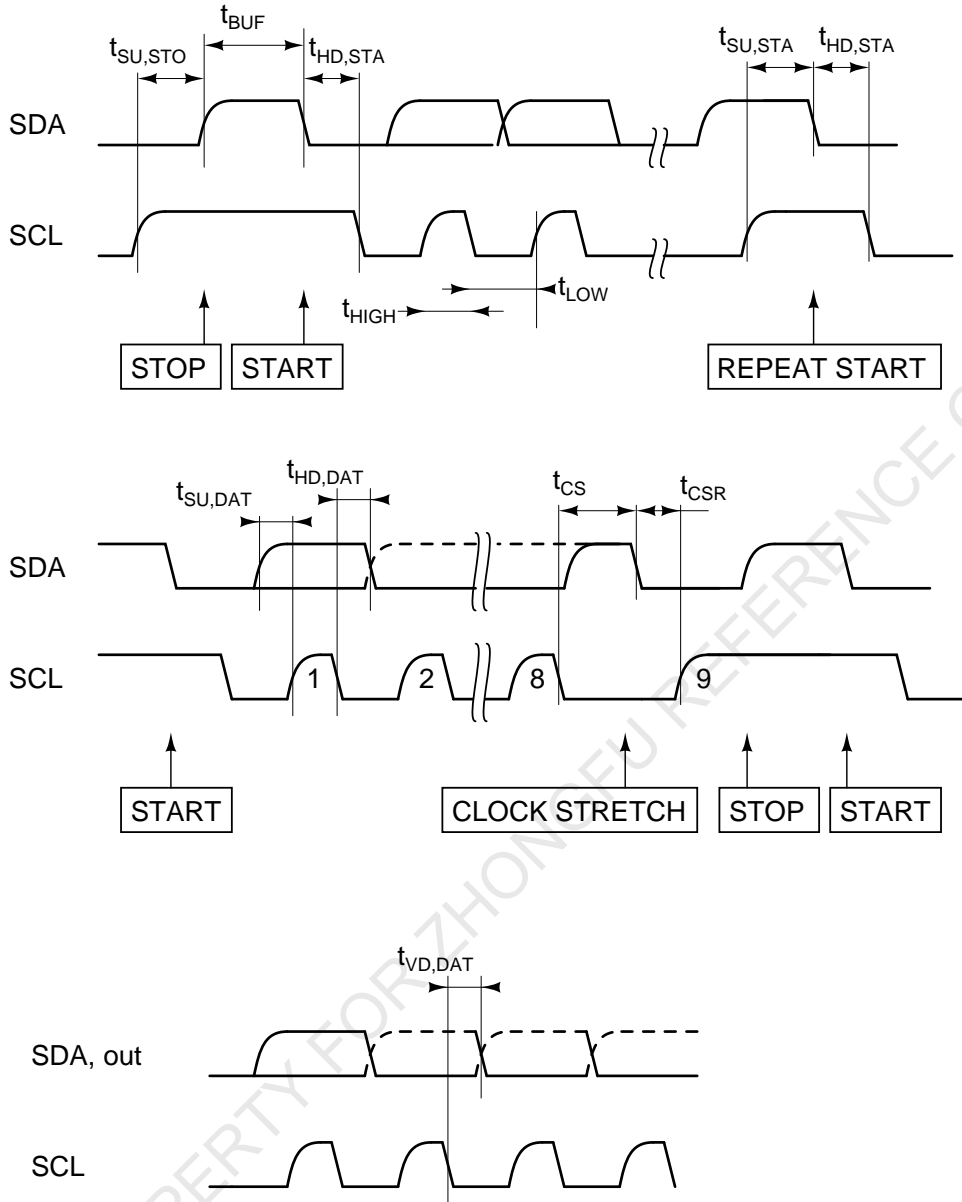

Figure 35: I²C timing example
4. If I²C master can't finish 1byte data in 100ms, I²C slave will restart. Tango C44 operates only as a slave device. The I²C interface is functional in active and sleep modes. In sleep mode, an asynchronous address match detector hardware allows a sleeping Tango C44/C48 to recognize its address and wake up. And The firmware can implement different I²C touch protocols. The timings for example are shown in table 12 and figure 35.